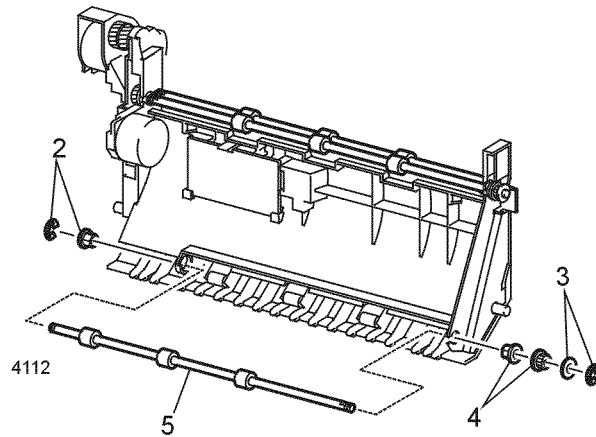

Figure 1 Lower Roll Assembly
4. Remove the Belt, pulley, and bearing from the right end of the Roll Assembly (Figure 1).
5. Remove the Lower Roll Assembly (Figure 1).